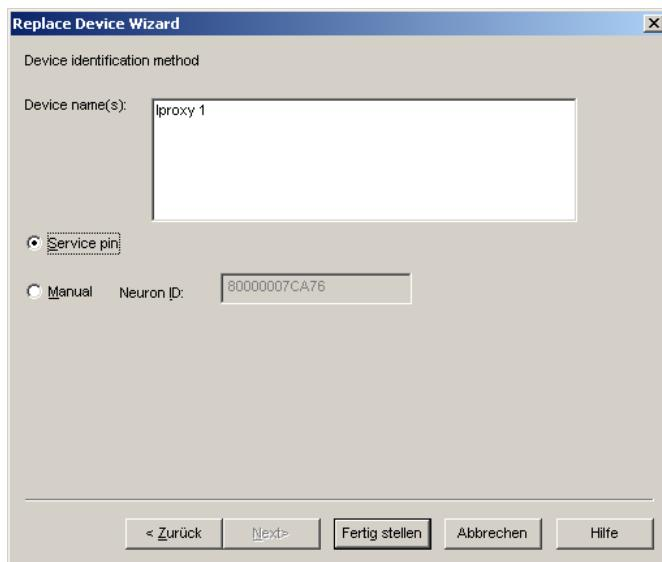

Figure 98: Select Service Pin and click Finish.
6. Select the **Service pin** method and click on **Finish** as shown in Figure 98.